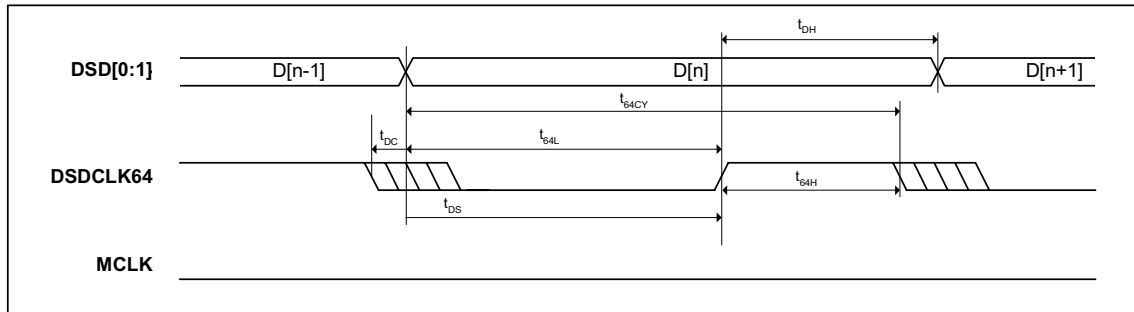
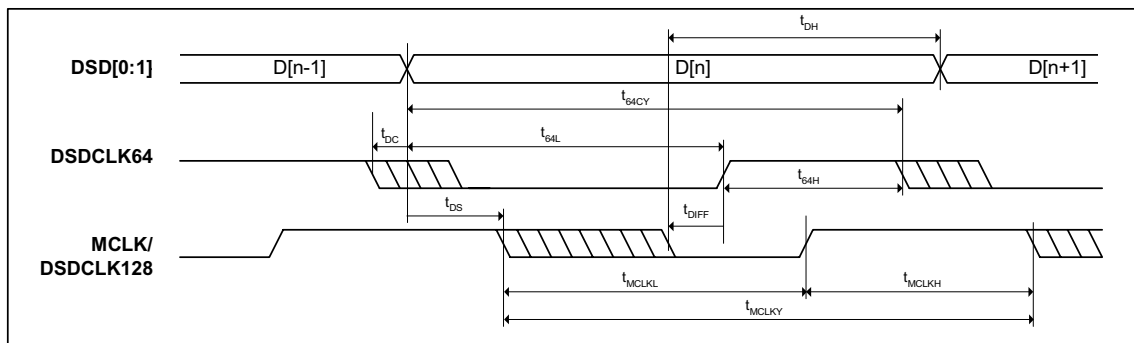
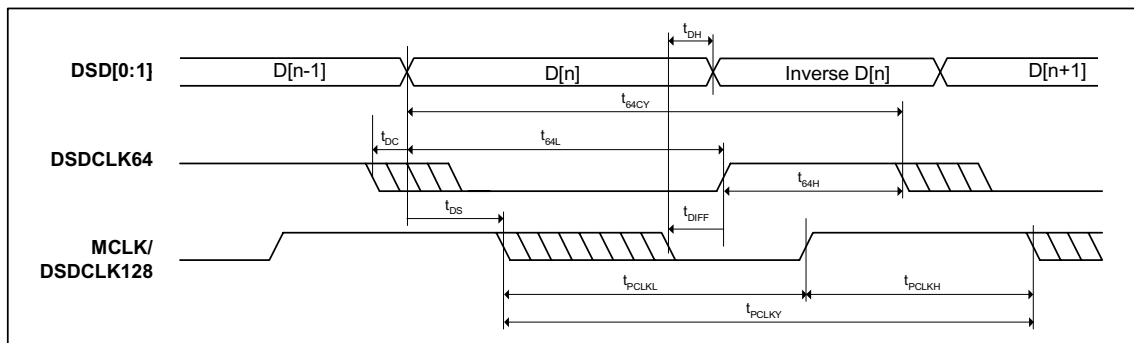

Figure 3 DSD Audio Timing - Normal Mode Without MCLK
Figure 4 DSD Audio Timing - Normal Mode With MCLK
Figure 5 DSD Audio Timing - Phase Modulated Mode
1. From the time that the registry write is made to change the WM8719's mode of operation both MCLK and DSDCK64, (unless in master mode), must be present on the relevant pins until the zero flags go high to indicate the end of the mode change over, when only the Clock(s) needed for that mode of operation need to be present on the relevant pins. The timing diagram Figure 4 shows the relationship between MCLK and DSDCLK64 during a mode change Figure 3 show the timing when in DSD normal mode with no MCLK running. Figure 5 show the timing for DSD Phase modulated mode.